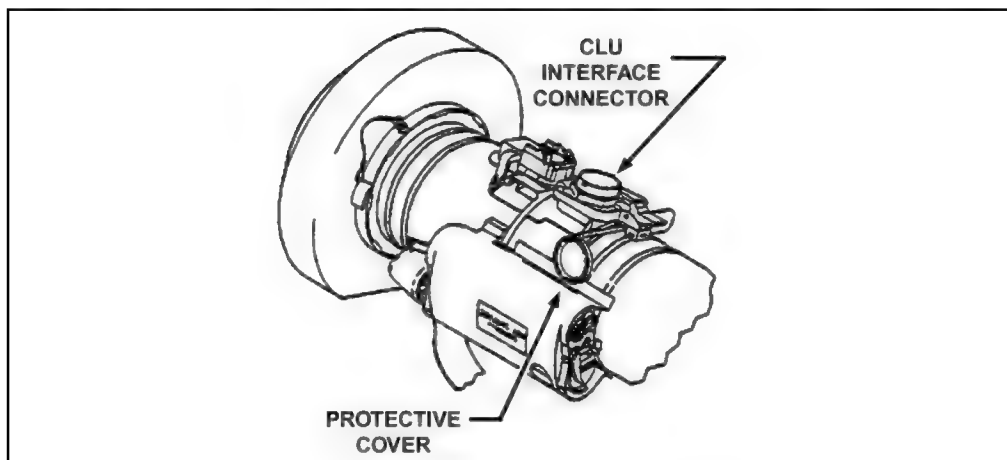

Figure 1-18. CLU interface connector.
f. **Command Launch Unit Interface Connector.** The CLU interface connector (Figure 1-18) provides the electrical interface between the round and CLU. Signals are passed through the connector between the CLU and round, which includes: digital information, power, and seeker image signals.